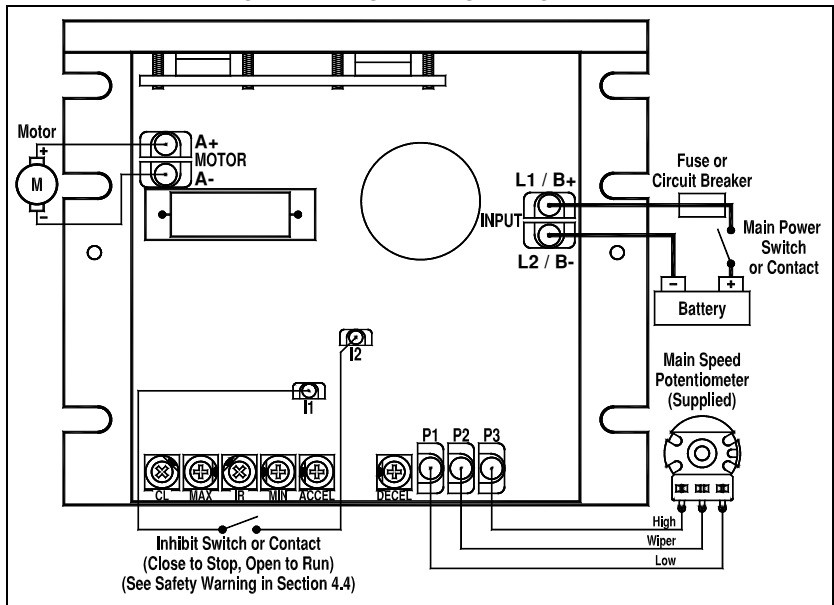

FIGURE 4
4.5 Signal Input: The drive can be operated with a 5 kΩ Main Speed Potentiometer (supplied), a 0 – 5 Volt DC analog signal, or an isolated PWM microprocessor signal. See Figures 4 – 6.
Connect the potentiometer low side to Terminal P1, the wiper to Terminal P2, and the high side to Terminal P3. See Figure 4.